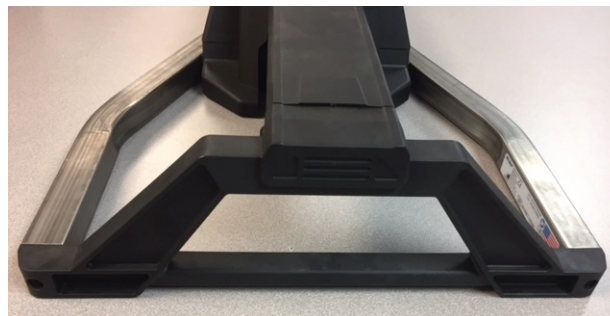

Figure 2:
6. Place the fastener on a flat surface. Make sure that the guide rails lay flat on the surface and that they are tightly secured to the frame. Deformed guide rails indicate that the product has been involved in a major crash (Figure 2 on page 1).